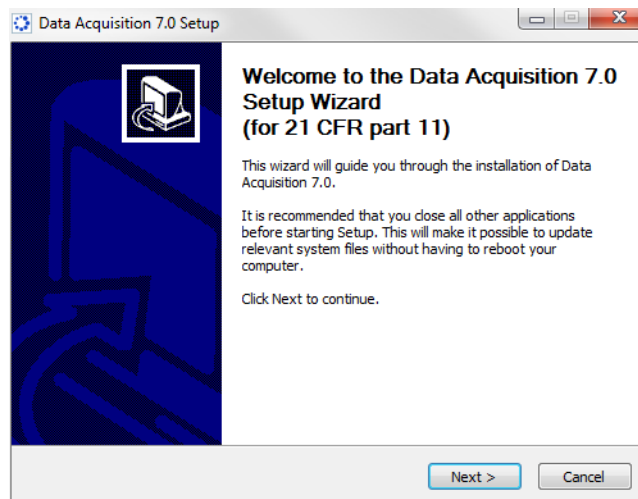

Figure B-1: Data Acquisition (for 21 CFR Part 11) Software Setup Wizard
2. Double-click **DataAcquisition-CFR.exe** to launch the installation wizard (see Figure B-1).